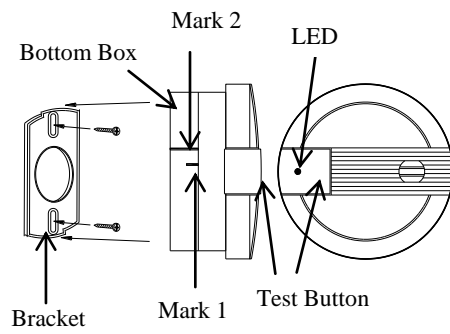

Fig. 5
4. Re-assemble the bottom box with the main body. The marks should be at the position shown in Fig. 5 after combination. And then tighten the Screw A.